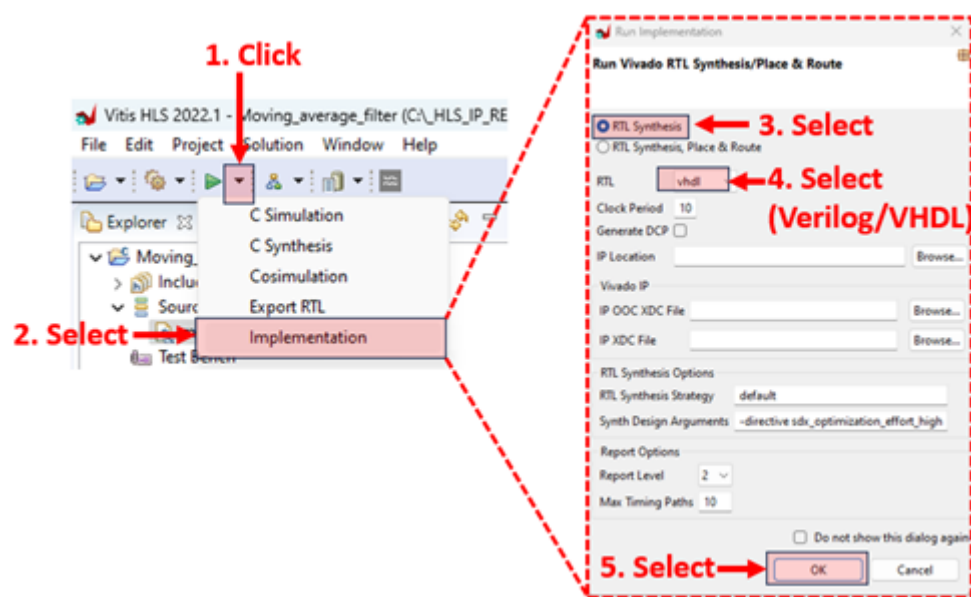

Figure 81: Implementing the IP in Vitis HLS.
9. Perform the implementation of the IP to make it accessible by a Vivado project. See details in the figure 81.